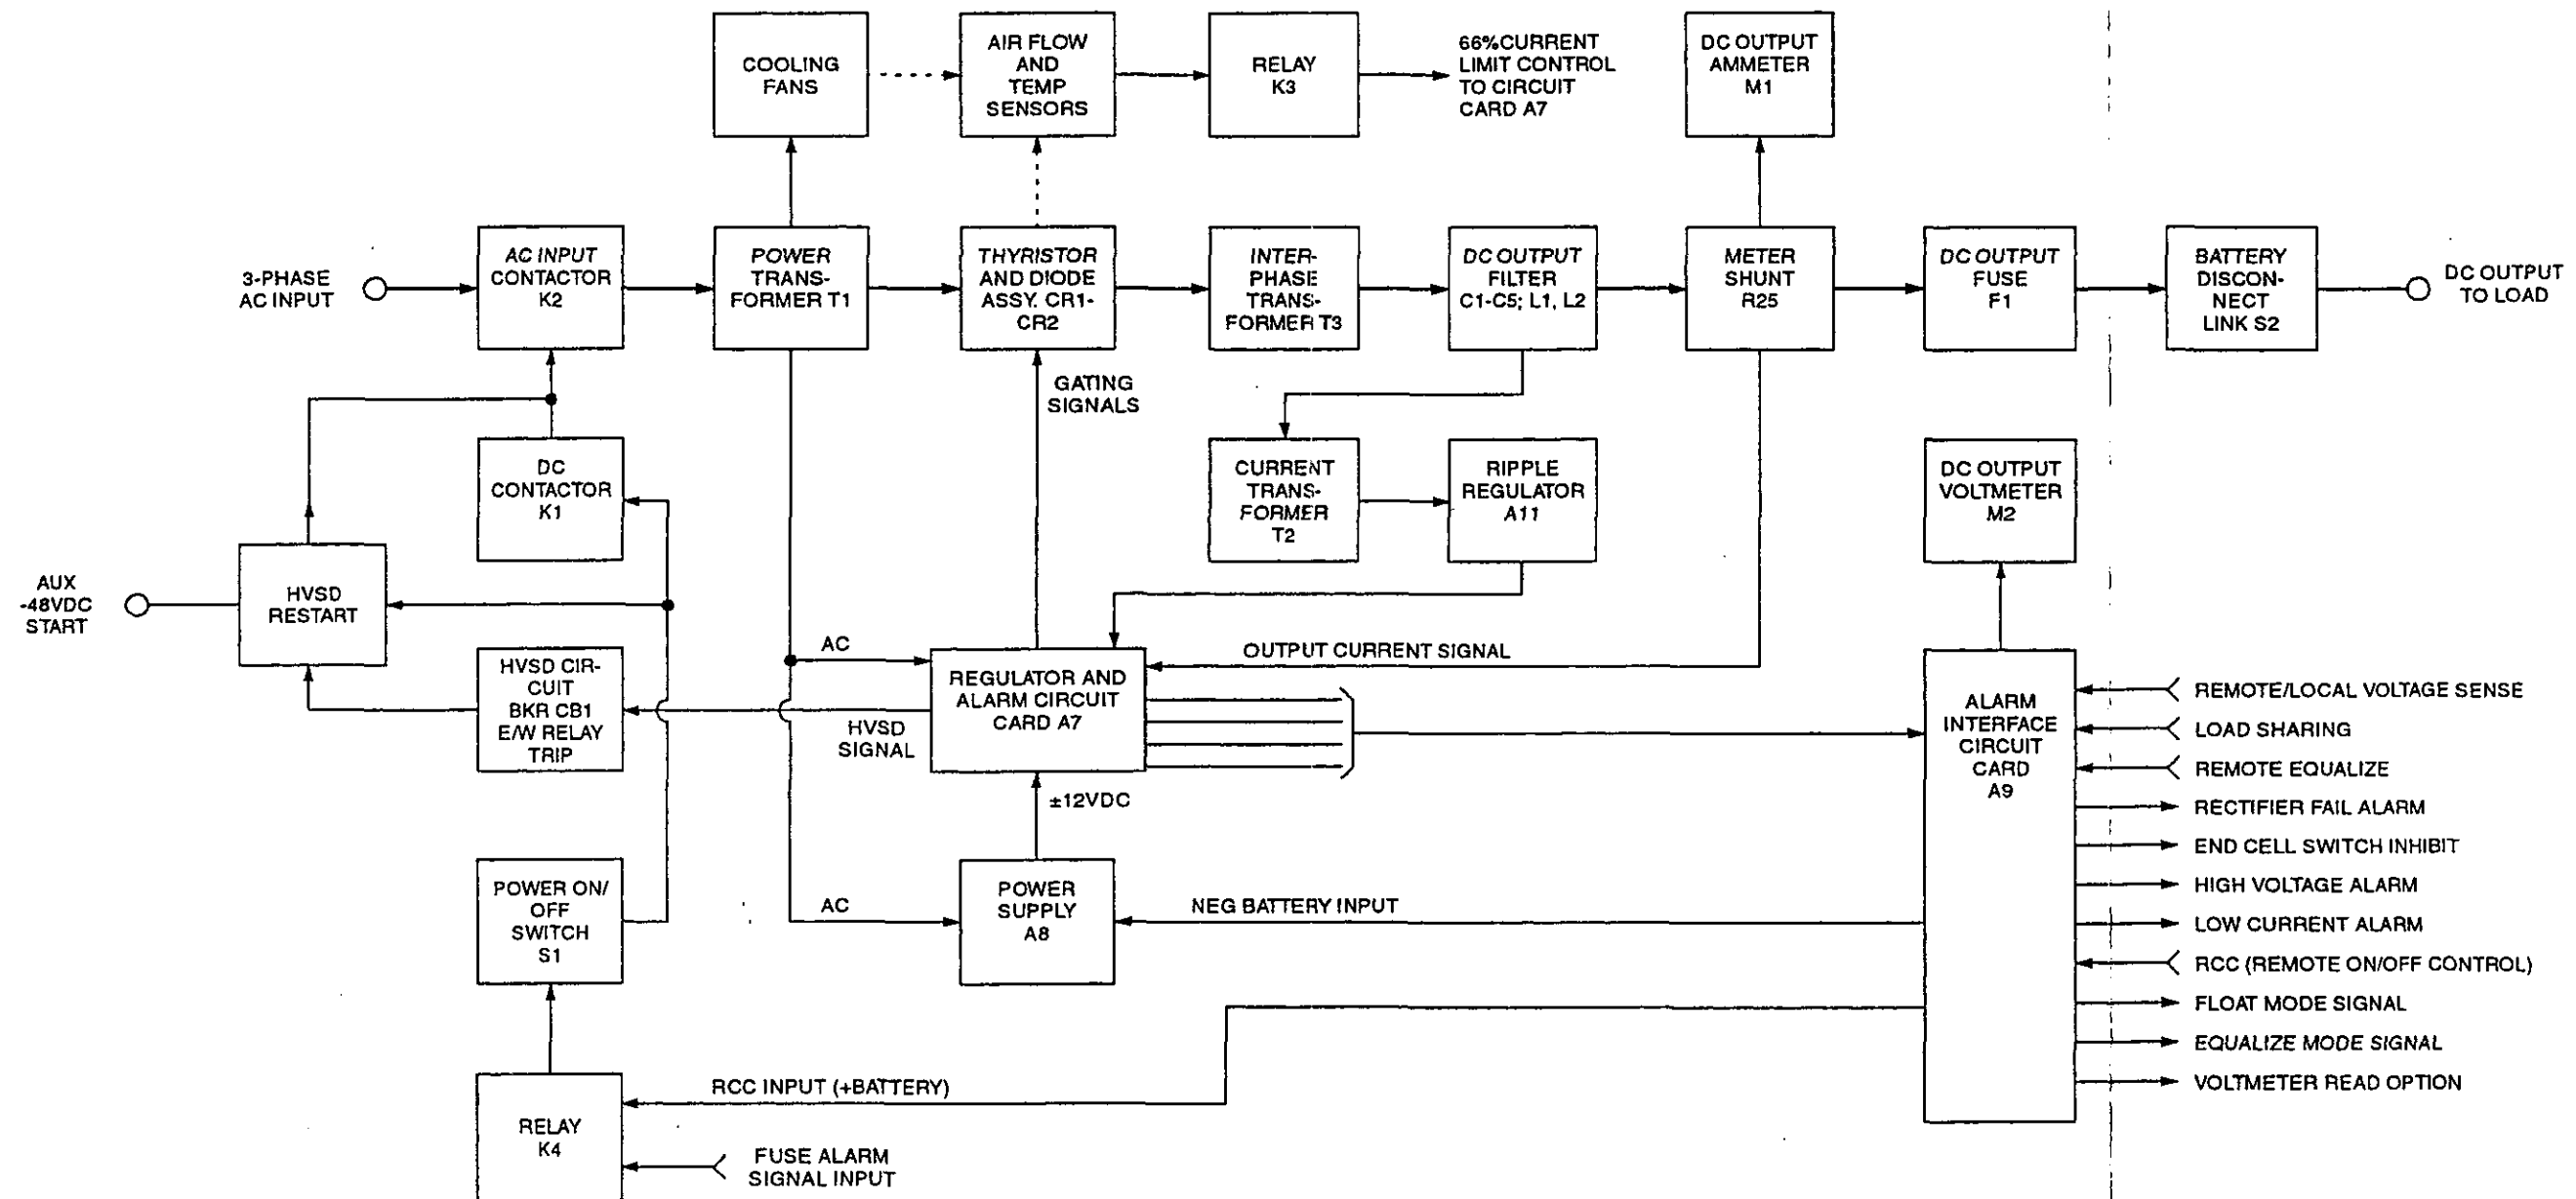

Figure 6-1. Rectifier Block Diagram
6.2 The description of the circuit is presented by functional blocks. Refer to Figure 6-1 for a rectifier block diagram.